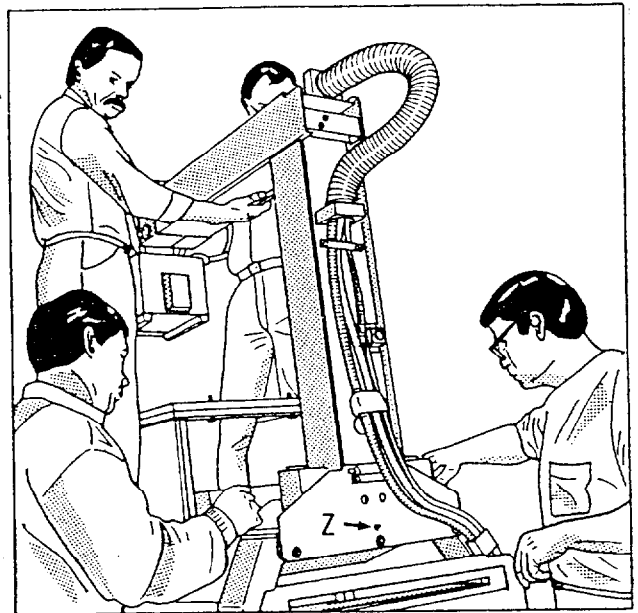

Fig. 11
- ◀ Lift the tube assy support arm, remove the yellow transport safety device and attach the support arm to the basic unit (Fig.11), and let the guide pin (Z/Fig.11) engage in the hole of the tube assy support arm.